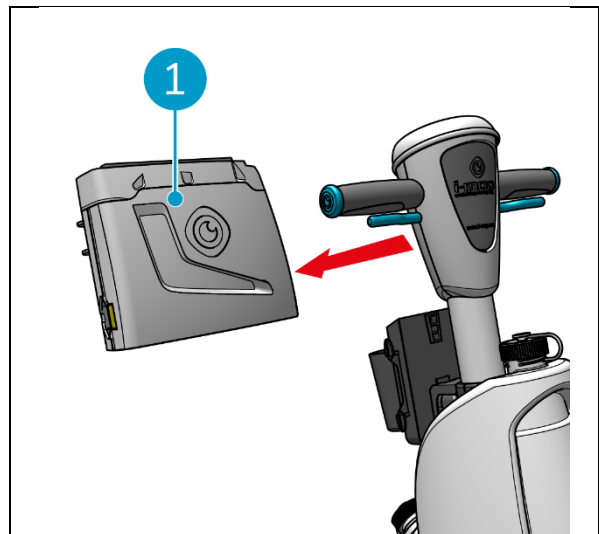

Figure 47
6. Detach the handle controller (Figure 47, pos. 1) from the i-mop XL.